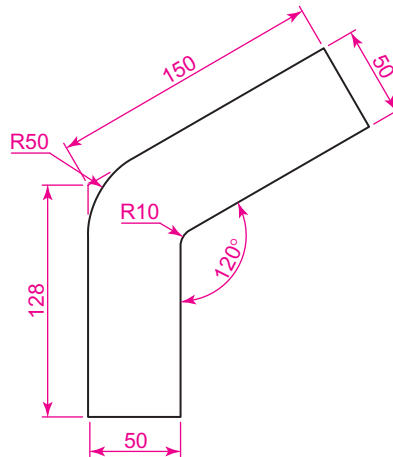

Fig. 17.22 Second example – 2D outlines in 3D space – outline to be extruded
1. Place the drawing area in the **ViewCube/Front** view, **Zoom** to **1** and construct the outline shown in Fig. 17.22.